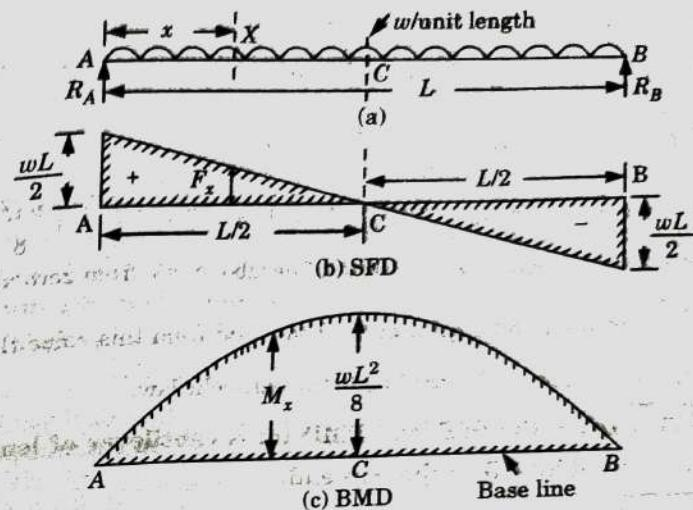

Fig. 1.21.1
- Fig. 1.21.1 shows a beam AB of length L simply supported at the ends A and B and carrying a uniformly distributed load of w per unit length over the entire length.
The shear force diagram is drawn as shown in Fig. 1.21.1(b).